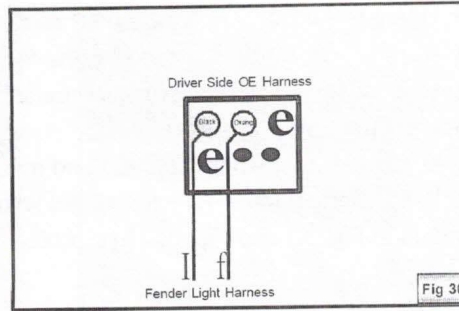

Fig 30
36. Connect the wiring harness to the installed lamp on the fender. As shown in Figures 30 and 31, the black and white wire connecting the brake lamp harness.